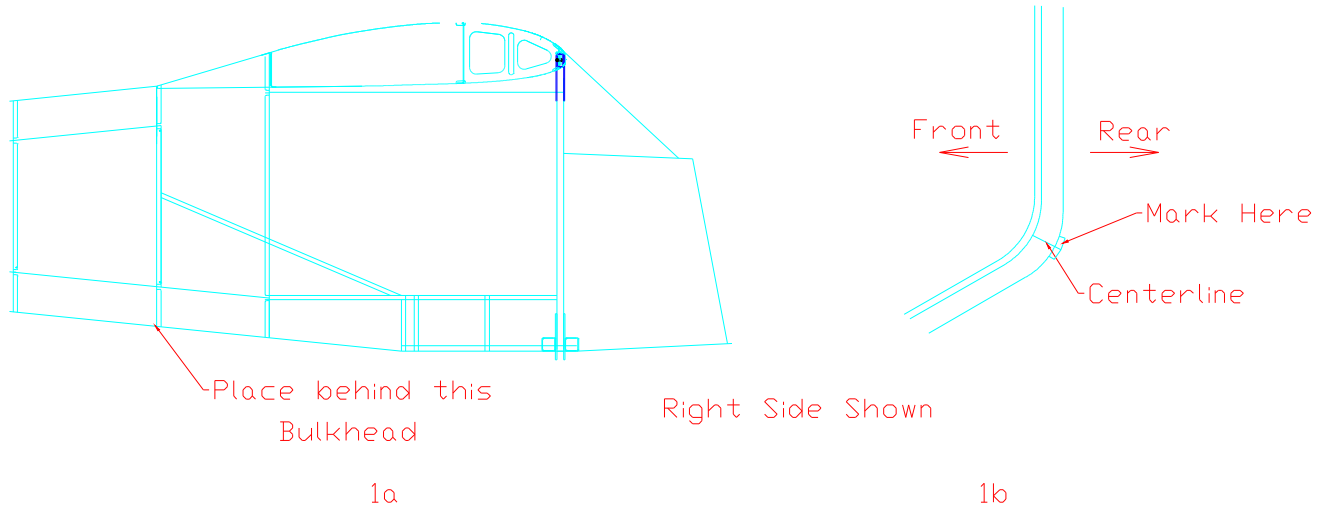

Figure 12.27.1
- 1) Locate bulkhead "A", and mark a line from the center of the radius onto the outside skin. Mark a box 1" x 1/4" as shown in figure 12.27.1.